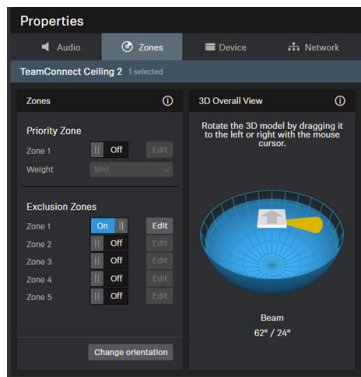

Figure 6. Control Cockpit Zones Tab
2. Under the **Zones** tab, the **3D Overall View** shows the real-time focus of the TCC2 automatic beam-steering (see figure 6 on page 6). Users can manually enable a Priority or Exclusion Zone.